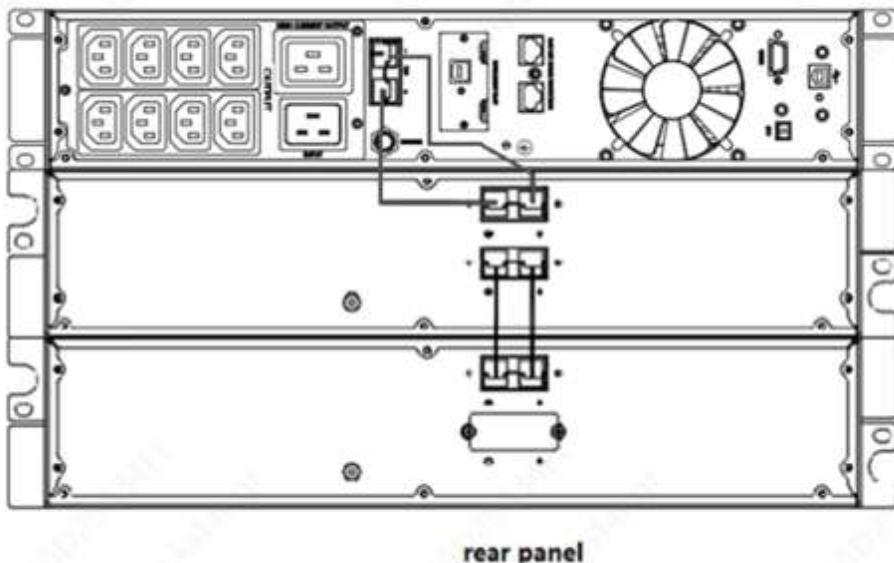

Figure 10 Typical EBP Installation
- c) For the bottom (or only) EBP, remove the EBP cable knockout on the top of the EBP front cover. See Figure 10 for the location of the top EBP cable knockout.
- d) If you are installing more than one EBP, for each additional EBP remove the EBP cable knockout on the top and bottom of the EBP front cover. See Figure 10 for the location of the EBP cable knockouts.
- e) Plug the EBP cable(s) into the battery connector(s) as shown in Figure 10. Up to four EBPS may be connected to the UPS. Connect black to black. Press the connector tightly together to ensure a proper connection.